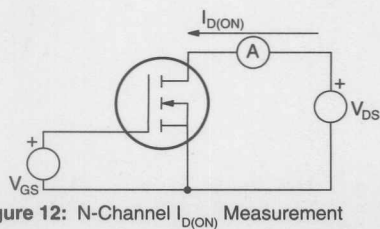

Figure 12: N-Channel  $I_{D(ON)}$  Measurement
G.  $I_{D(ON)}$  — The on-state drain current. It is measured at specified values of drain-source and gate-source voltage. NOTE: To reduce heating of the device, this should be performed in a pulse mode, or with an adequate heat sink. (See Figure 12 for measurement circuit.)